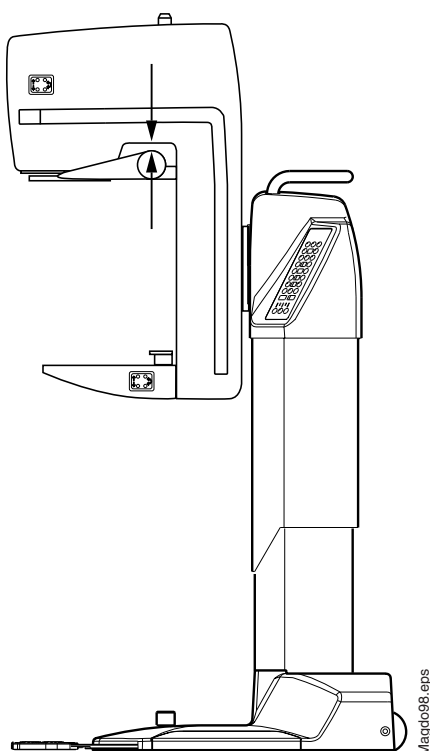

Figure F.27
- The adjustment is performed with right C-arm side panel fastened to make sure that the upper compression paddle assembly does not hit the side panel at the lower limit (this is possible failure when the C-arm is in MAG-position, compression paddle non-tilted and in its highest position (tilt release position) (Fig. F.27).